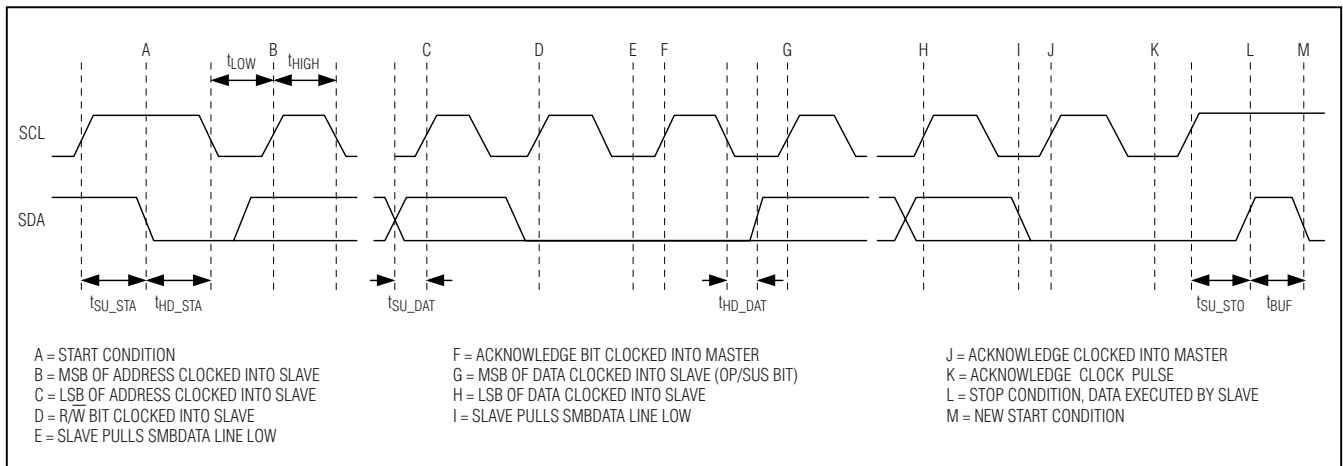

Figure 2. I²C Timing Diagram
The I²C serial interface consists of a serial-data line (SDA) and a serial-clock line (SCL). Standard I²C write-byte commands are used. Figure 2 shows a timing diagram for the I²C protocol. The MAX8830 is a slave-only device, relying upon a master to generate a clock signal. The master (typically a microprocessor) initiates data transfer on the bus and generates SCL to permit data transfer. A master device communicates to the MAX8830 by transmitting the proper 8-bit address (0x94) followed by the 8-bit control byte. Each 8-bit control byte consists of a command code (usually 3-bits) with the remaining bits (usually 5 bits) as data (see Table 1). Each transmit sequence is framed by a START (A) condition and a STOP (L) condition. Each word transmitted over the bus is 8 bits long and is always followed by an acknowledge clock pulse.